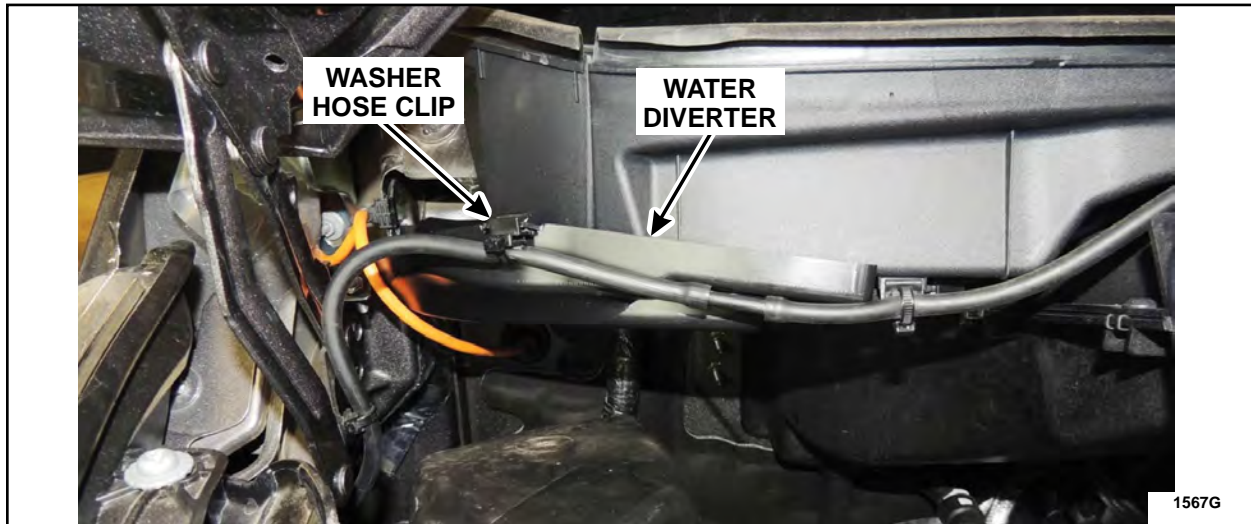

FIGURE 13
20. Route the orange antenna wire in front of the diverter and route the washer hose under the inboard end of the diverter. Attach the washer hose clip to the front edge of the diverter. See Figure 13.